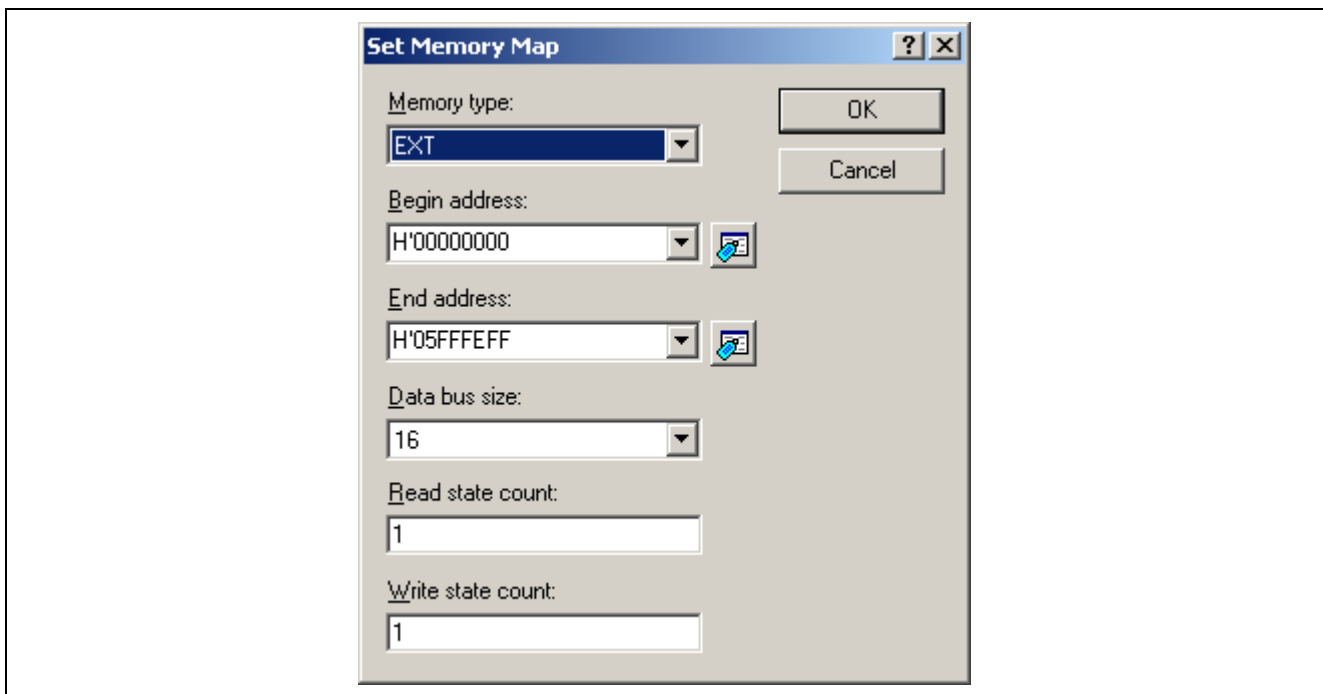

Figure 1.2 Set Memory Map Dialog Box
- Add items to [Memory Map]. Clicking on this button opens the [Set Memory Map] dialog box (figure 1.2), in which an item can be added to the map.
- Modify an item in [Memory Map]. Select the item to be modified in the list box and click on this button. This opens the [Set Memory Map] dialog box (figure 1.2), in which the selected memory map item can be modified.